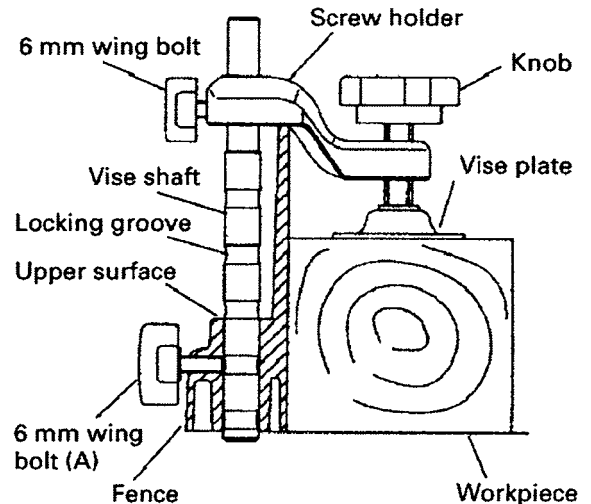

Fig. 34
- (1) The vise assembly can be mounted on either the left fence (fence (B)) or the right fence (fence (A)), and can be raised or lowered according to the height of the workpiece.
To raise or lower the vise assembly, first loosen 6 mm wing bolt (A). As shown in Fig. 34, the vise shaft has five locking grooves into which the tip of 6 mm wing bolt (A) is designed to fit in order to lock the vise shaft in the desired position.